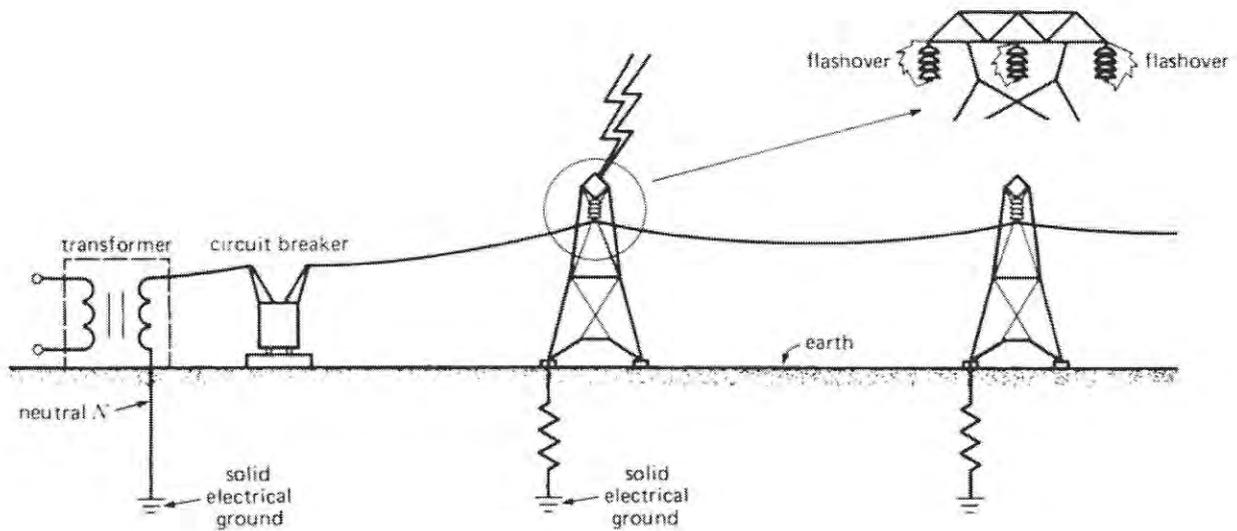

Figure Q4(b)
- (d) List out **three (3)** comparisons between destructive test and non-destructive test. (6 marks)
- (b) A 3-phase 132 kV overhead transmission line having basic insulation level (BIL) of 400 kV is supported on steel towers and protected by a circuit breaker. The ground resistance at each tower is  $20 \Omega$  whereas the neutral of the lines is solidly grounded at the transformer just ahead of the circuit breaker. During a lightning storm, one of the towers is hit by lightning stroke of 30 kA. By referring to **Figure Q4(b)**.